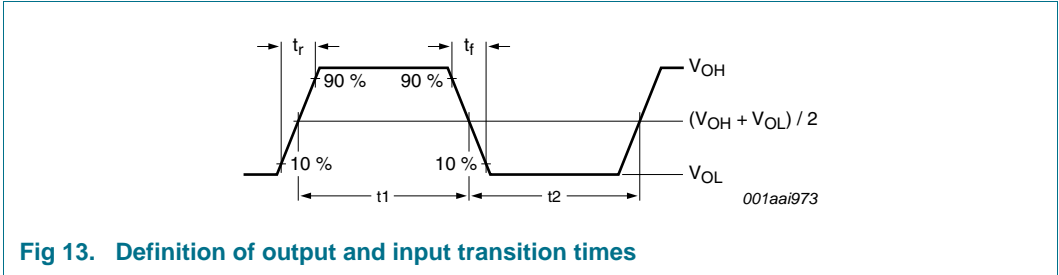

Fig 13. Definition of output and input transition times
- [5] The transition time and the duty factor definitions are shown in Figure 13 on page 19;  $\delta = t1 / (t1 + t2)$ .